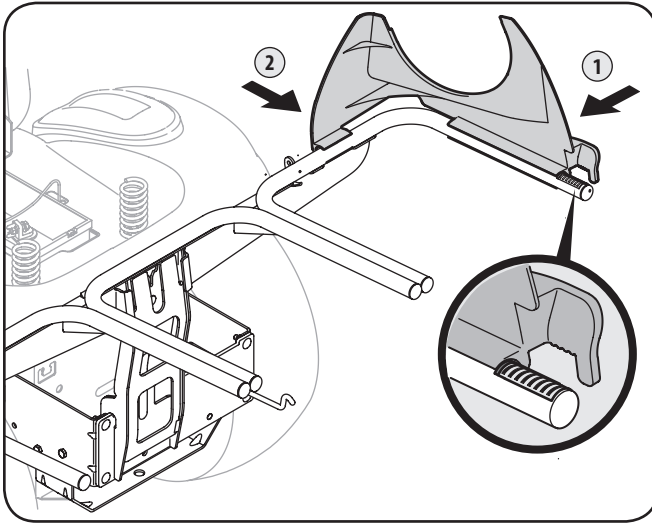

Figure 4-8
1. Snap the plastic upper chute support in place by first clipping the side portion onto the bagger support rail with the edge of the snap feature aligned with the red line, as seen in Fig. 4-8.
2. Snap the front side of the chute support to the rail, as shown in the inset of Fig. 4-8.